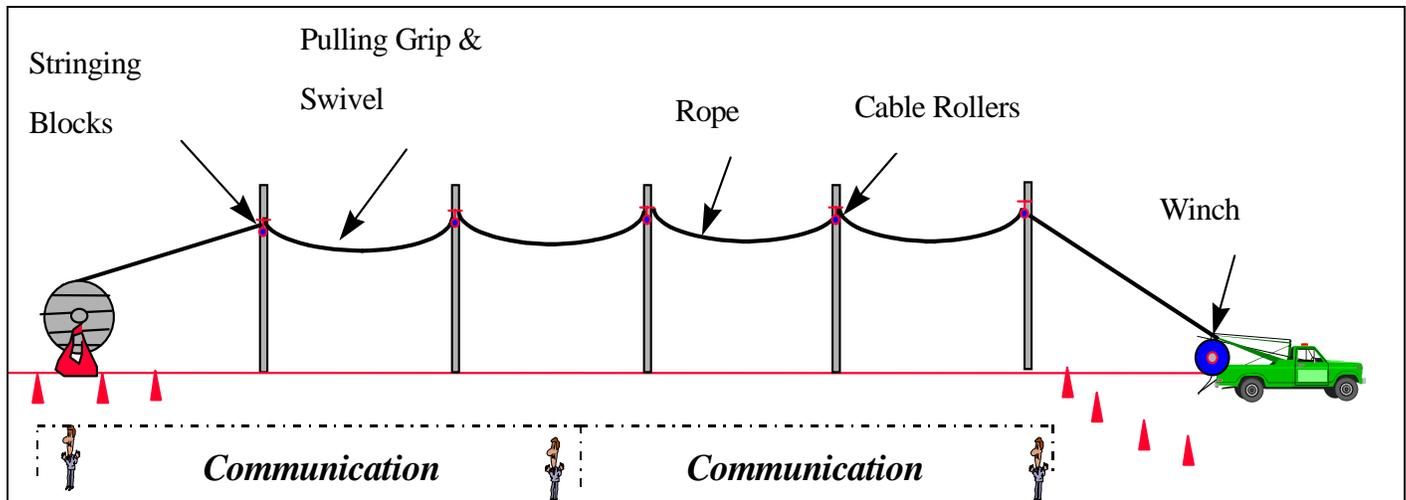
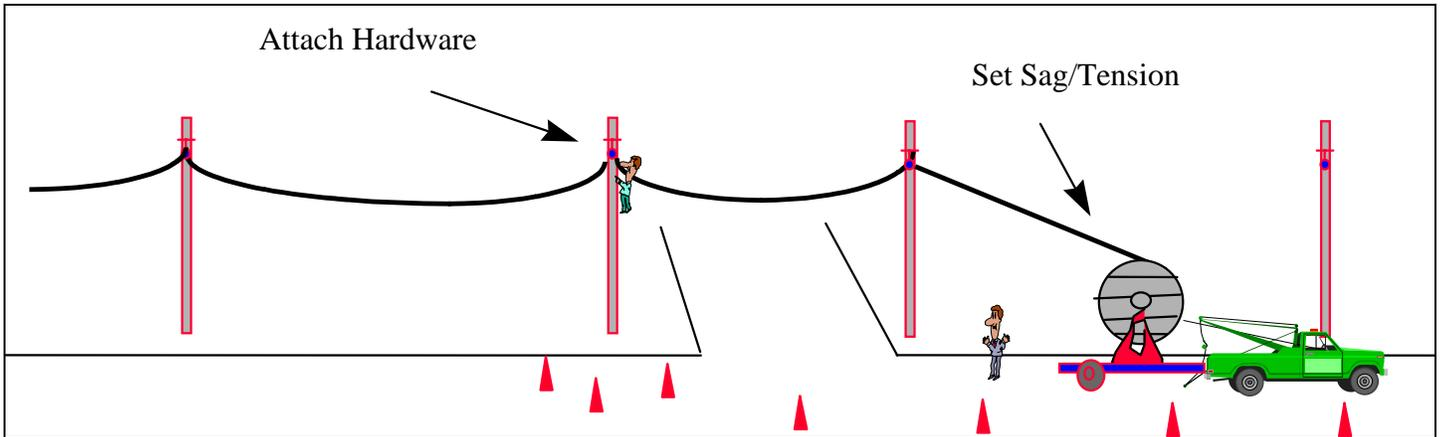

Figure 4 Stationary Reel Method Using a Pre-Installed Rope
Figure 5 Moving Reel Method
Figure 4 - Intermediate Suspension Attachments – used between dead ends for span lengths up to 600 feet and for line angles up to 20° due to changes in elevation or direction.
7.1 This procedure assumes a stationary reel method of installation where a pulling rope and stringing blocks are installed prior to the installation of the cable (see Figure 4). The procedure also assumes that the cable is being installed on a distribution pole line. Alternate methods such as the moving reel method or the stationary method (see Figures 5 6, & 7) where the cable and stringing blocks are placed from structure to structure before sagging is completed should be considered. Determination of the installation method will depend upon local conditions. Moving reel methods are generally associated with distribution pole lines whereas the stationary reel method (install block, install rope, pull cable) may be used for both distribution and transmission line applications.